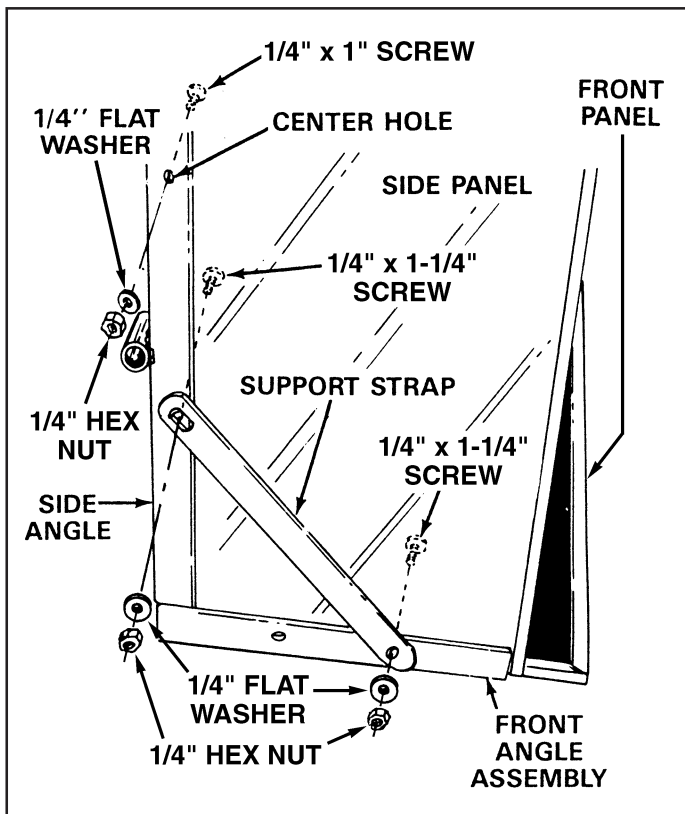

FIGURE 6
9. Place one side panel in position against a side angle and down on top of the front panel. Start one 1/4" x 1" screw through the **center hole** in side panel and side angle. Secure with hex nut and flat washer. See figure 6. **Make only finger tight at this time.**
10. Start one 1/4" x 1-1/4" screw through front hole on side panel and side angle. Start another 1/4" x 1-1/4" screw through top hole on side panel and front angle assembly. Next, place a support strap over these two screws and secure it with flat washers and hex nuts, **making only finger tight at this time.** See figure 6.